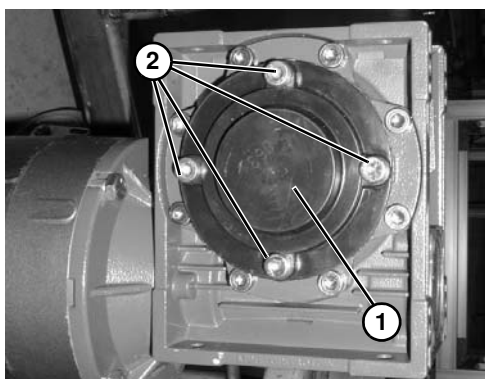

Figure 42
4. Install cover (**Figure 42, item 1**) with four screws (**Figure 42, item 2**).